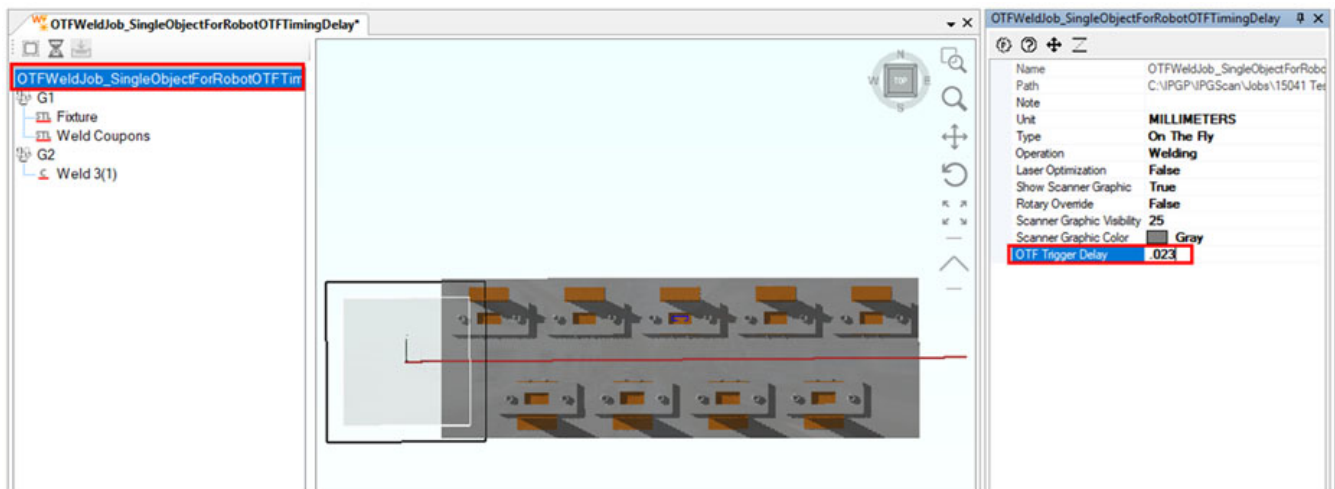

Figure 314: Entering an OTF Trigger Delay for a OTF Job
6. Enter the calculated OTF Trigger Delay time for the given OTF Job. See Figure 314 (below).